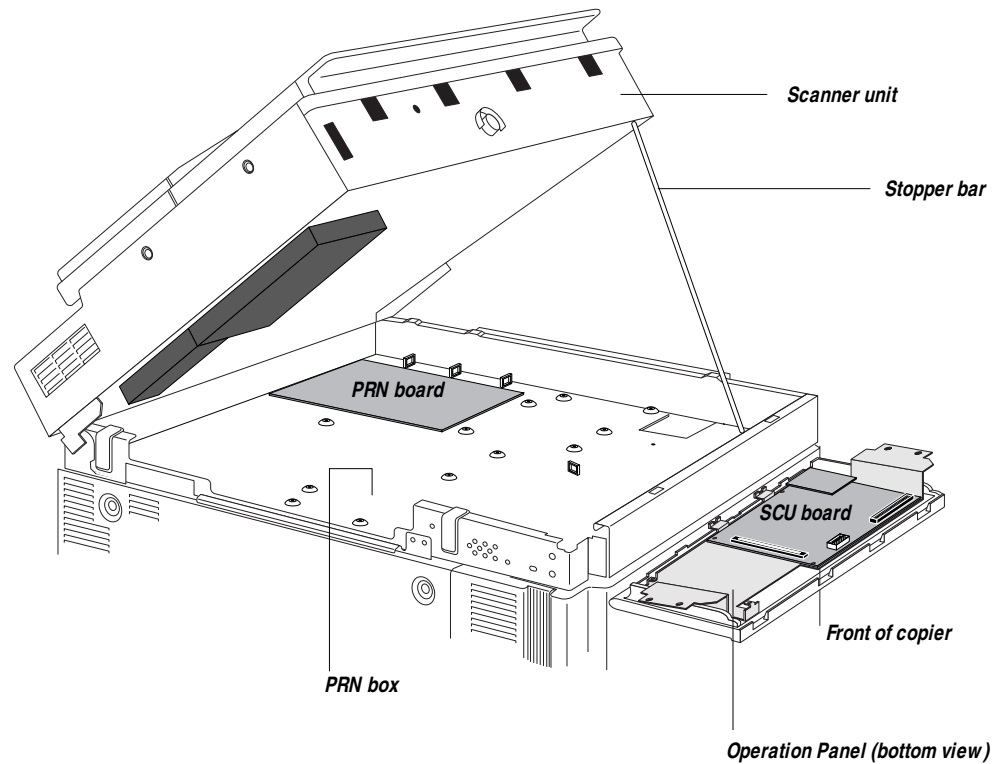

Figure 2-4 Accessing the PRN box
6. **Lift the scanner unit and prop it up with the stopper bar (see Figure 2-4).**